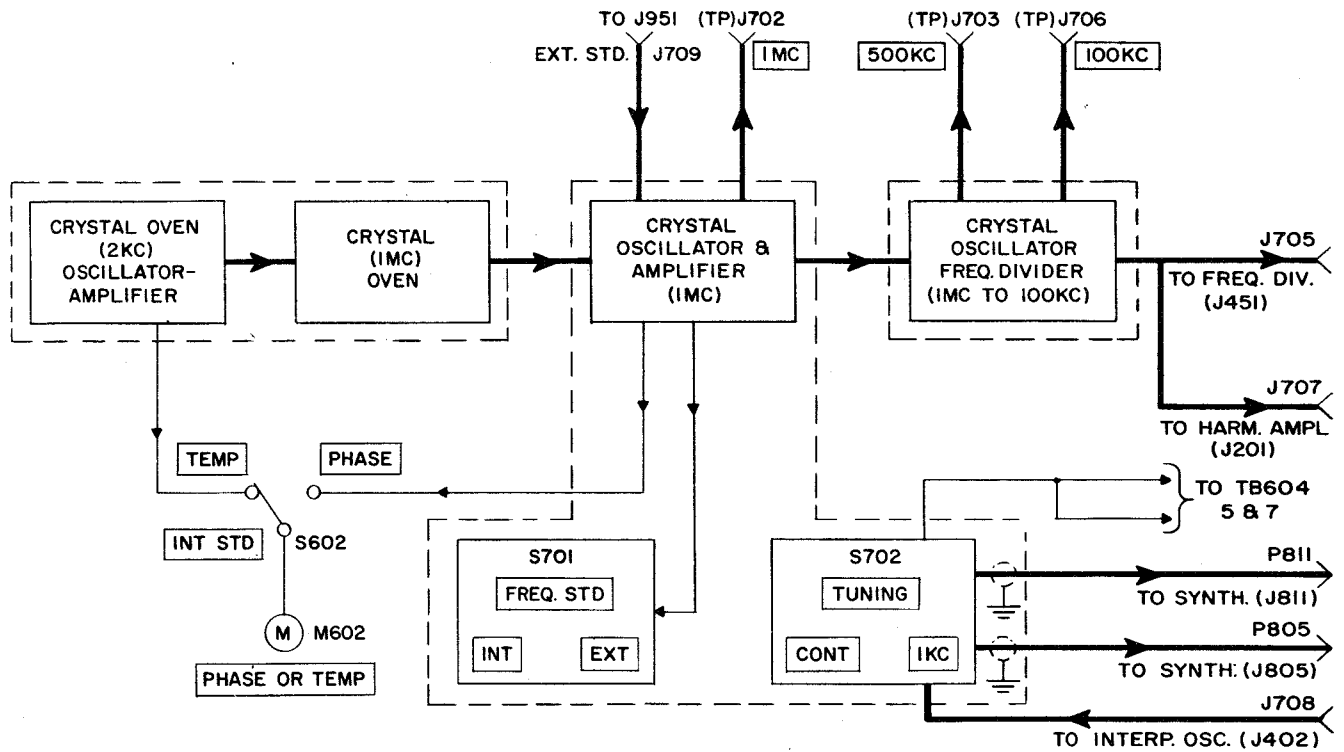
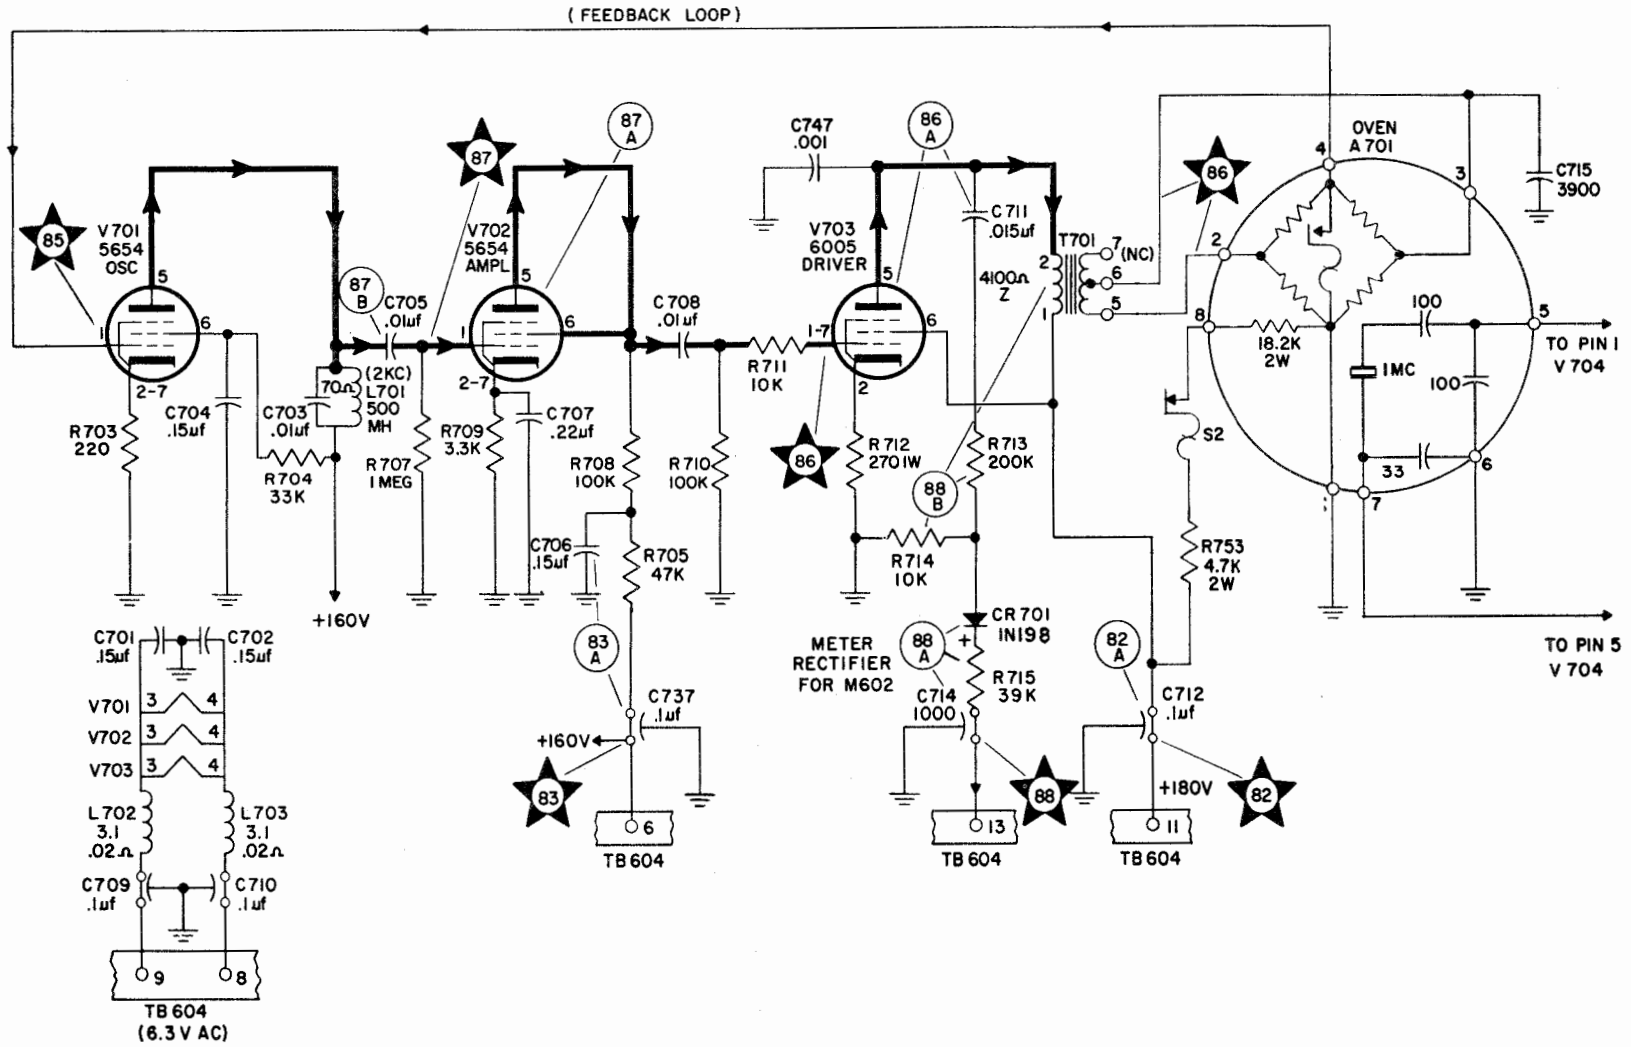
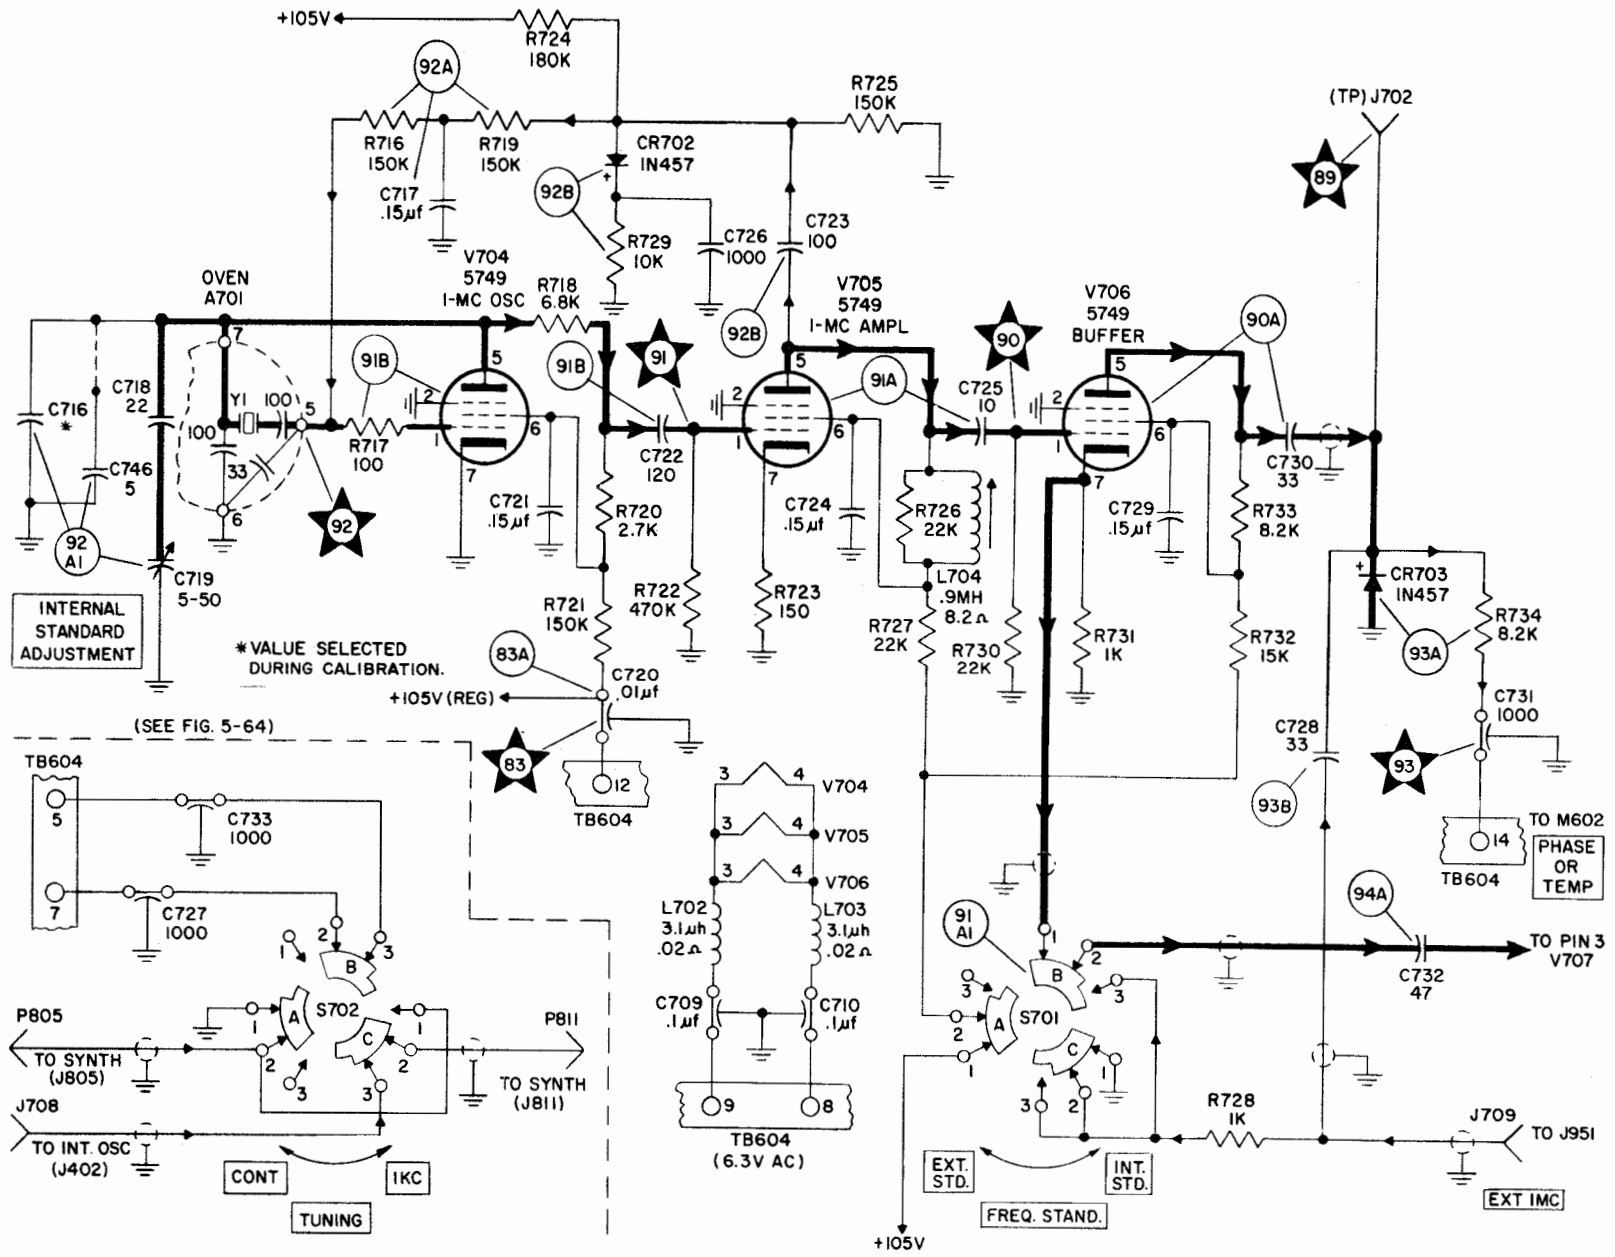
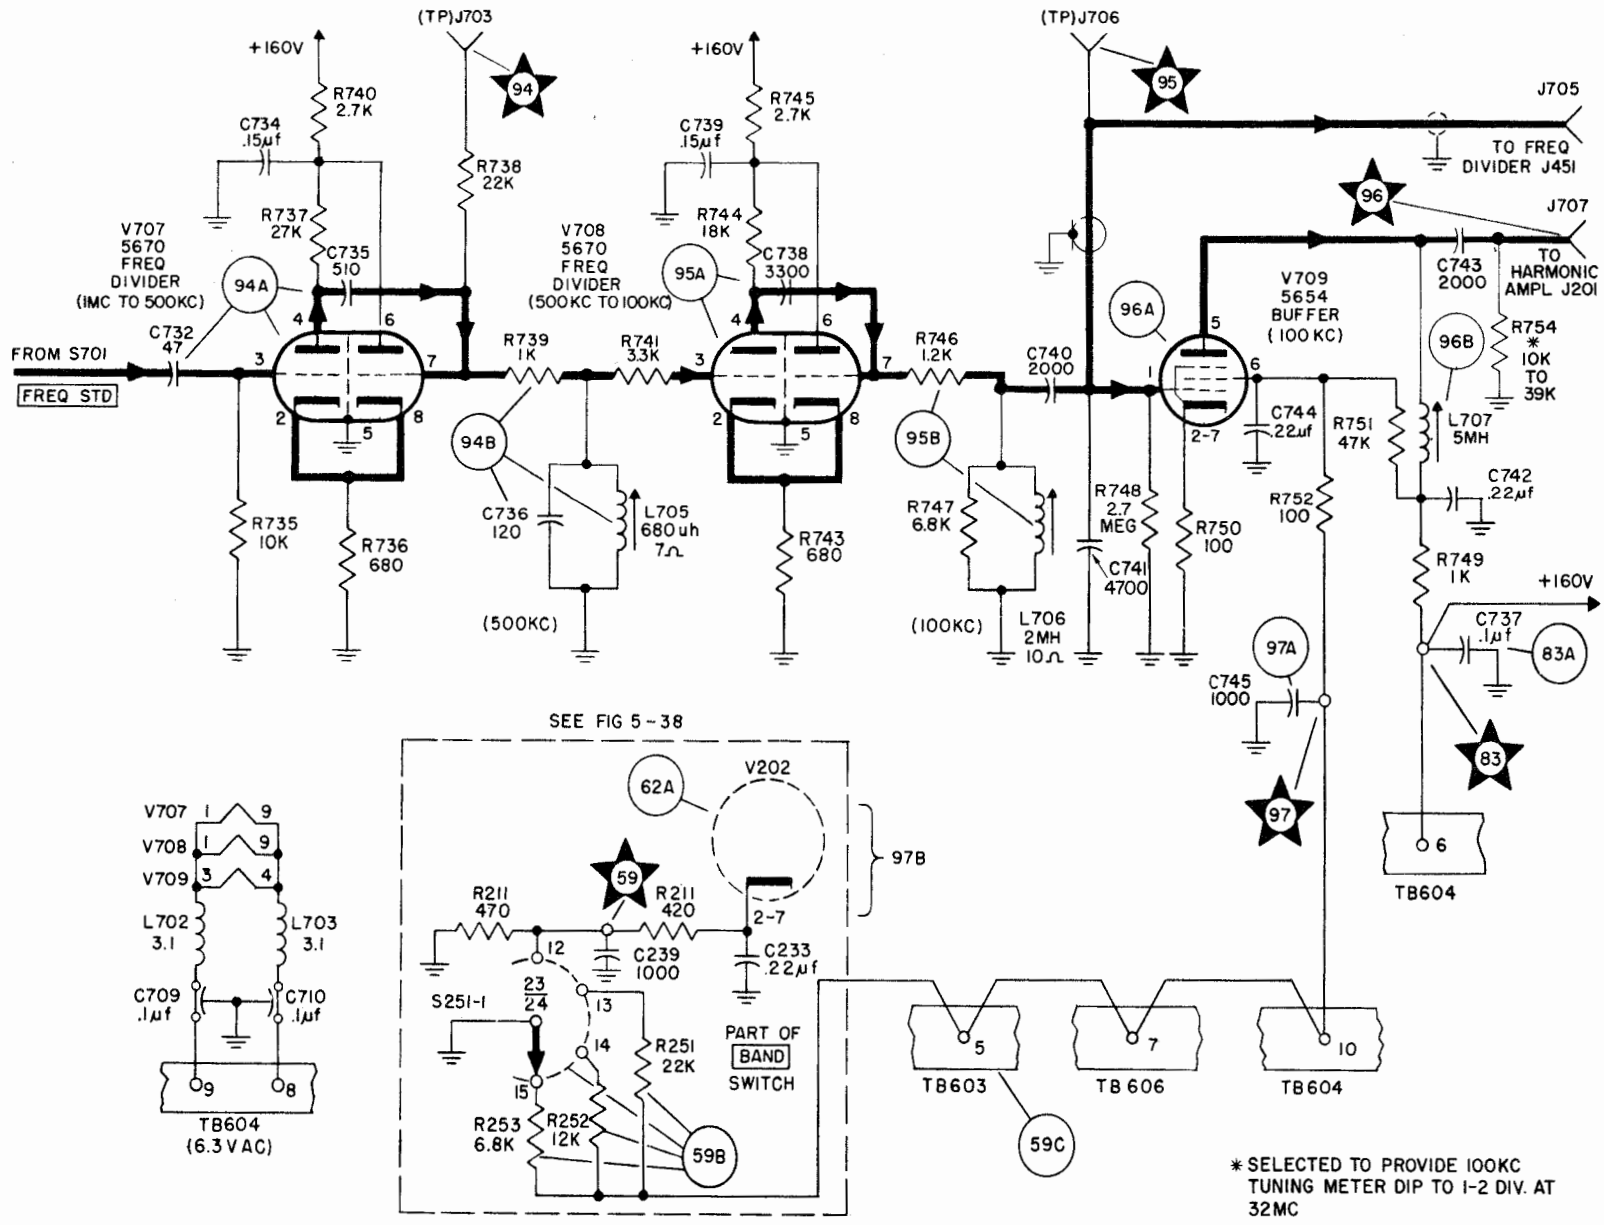

Figure 5-52. Crystal Oscillator, Functional Block Diagram
Figure 5-53. Crystal Oscillator, Oven Oscillator- Amplifier, Functional Schematic Diagram
Figure 5-54. Crystal Oscillator, Crystal Oscillator-Amplifier, Functional Schematic Diagram
Figure 5-55. Crystal Oscillator, Frequency Divider, Functional Schematic Diagram
a. GENERAL.—The crystal oscillator subassembly (figure 5-52) contains three circuit sections—the crystal oven oscillator and amplifier (figure 5-53), the crystal oscillator and amplifier (figure 5-54), and the crystal oscillator frequency divider (figure 5-55). For a complete schematic diagram of the crystal oscillator subassembly, refer to figure 6-17.